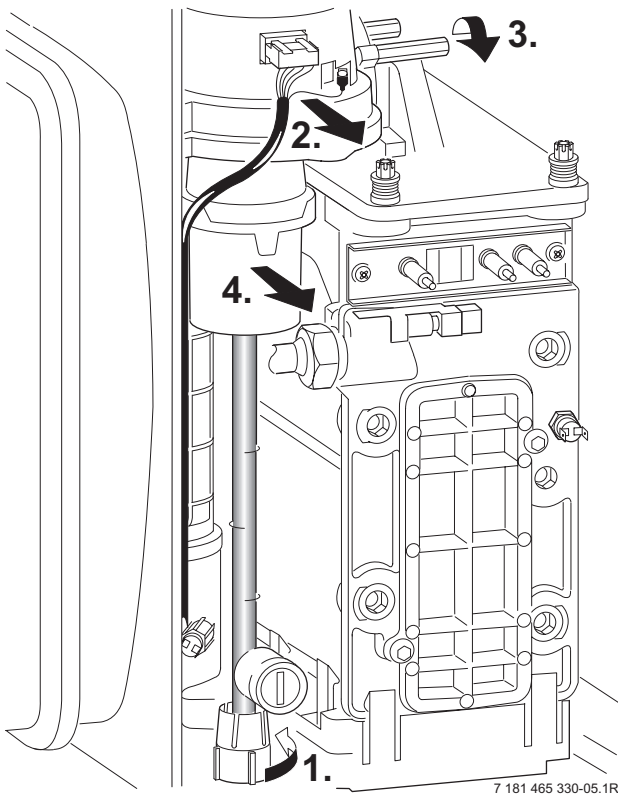

Fig. 62
- Undo lower pipe union on gas pipe (1.). Refer to fig. 62.
- ▶ Undo the union, within the inner casing, securing the valve to the gas/air tube. Refer to fig. 62.